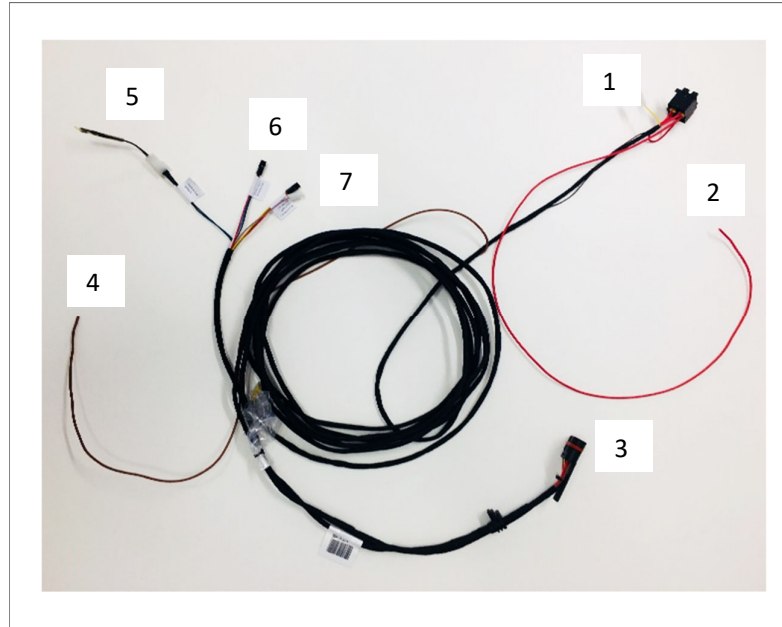

Fig 12 – AT2000STC Main Harness connections
Do not cut or extend the controller wiring harness. This will void the warranty. If an extension is required for the control element plug (Fig 12) (X9), an extension harness is available from Webasto.
Ensure that the main plug is properly “home” in the ECU (Fig 12) (3). The main positive (red) and negative (brown) has to be directly connected to the house battery and **NOT** via a master switch to ensure correct shut down cycle of the heater.